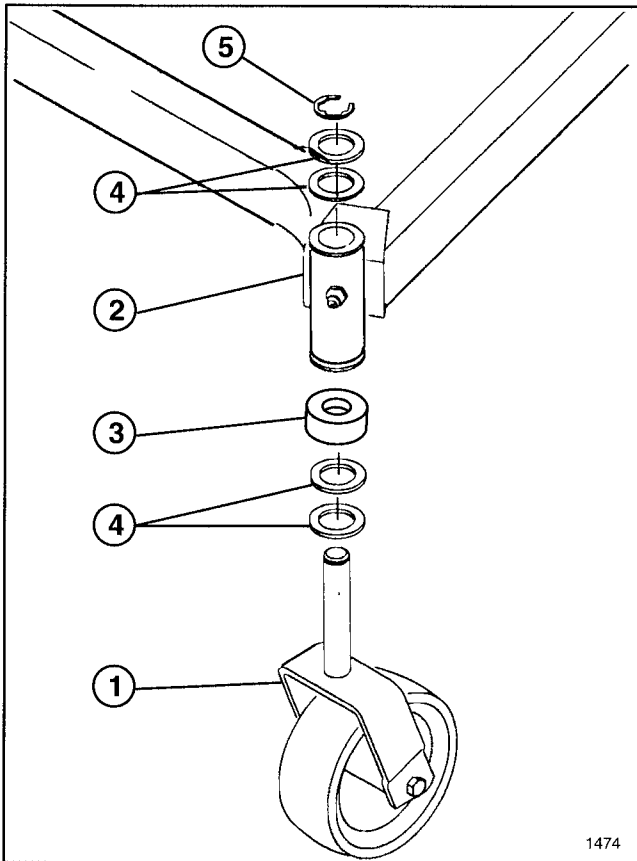

Figure 1
1. Place (2) thrust washers onto castor wheel shaft (Fig. 1).
2. If cutting unit is to be mounted on a traction unit with a serial number of 491352 & up, position a caster wheel spacer (Fig. 1) below carrier frame, when mounting caster wheels. When mounting cutting units on traction units with serial number prior to 491352 place the spacer above carrier frame.
3. Insert shaft into carrier frame mounting tube. Install (2) thrust washers and secure with retaining ring (Fig. 1).